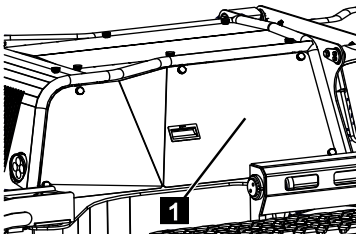

Fig. 221
1. Unscrew the cover (Fig.221/1).